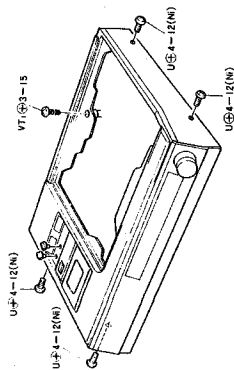

Fig. 2
- 2) Remove 8 screws. (Refer to Fig. 2, 3)